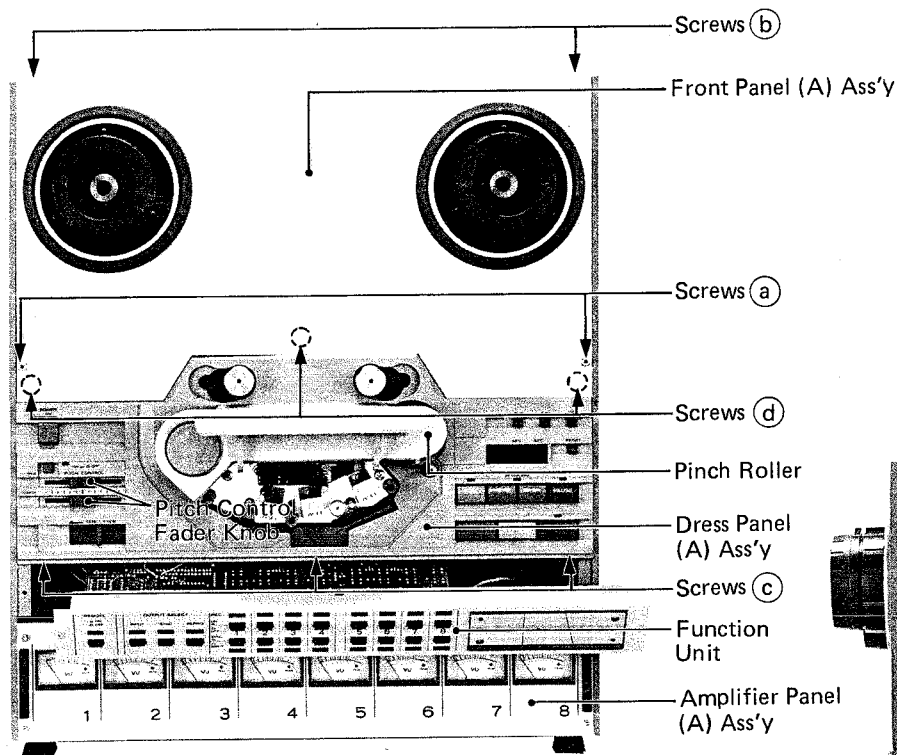

Fig. 7-4. Front Panels
Using a 4 mm Allen wrench, remove the two Allen screws (a) from both the left and right sides of the front panel, and the two screws (b) located on the top of the deck, as shown in Fig. 7-4.
C. Dress panel (A) ass'y
2. Loosen the two retaining screws on the left and right sides of the function unit. Then slide the function unit back and forth to allow access to the three screws (c) shown in Fig. 7-4. The dress panel can be removed from the deck after these three screws are removed.